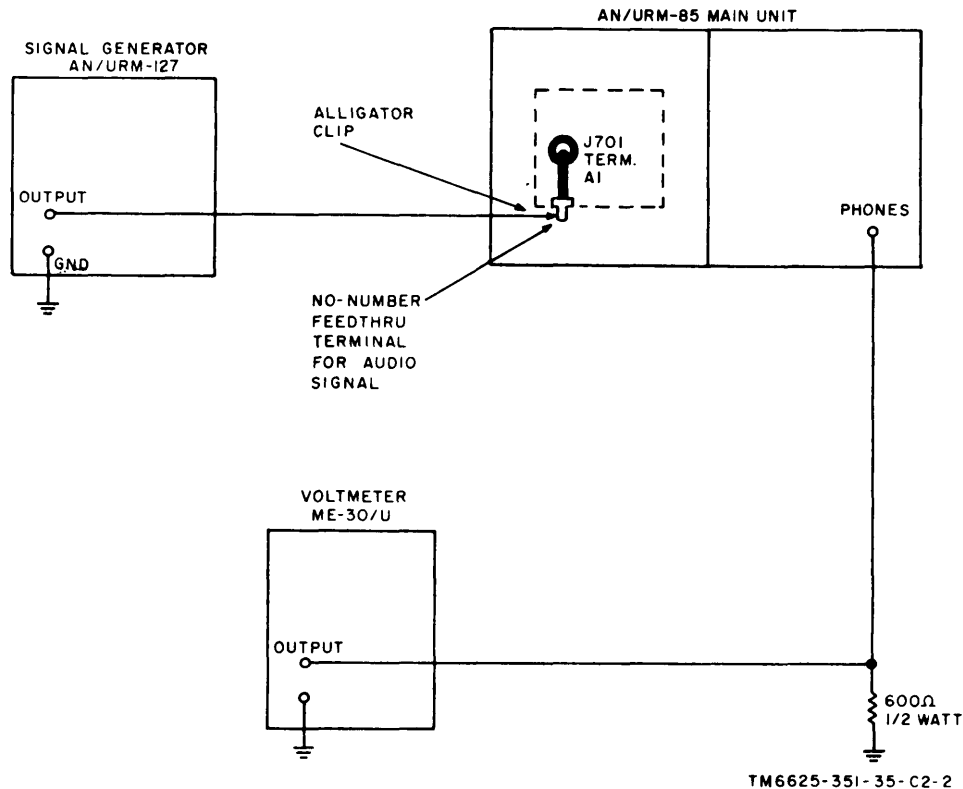

Figure 95.2. Test setup for audio amplifier response test.
To check the response of audio amplifier V701 in the main unit, set up the equipment as shown in figure 95.2, and proceed as follows:
c. Adjust the output of the signal generator to produce a signal of 0.1-volt amplitude from terminal A1 of J701 (fig. 95.2) to ground.